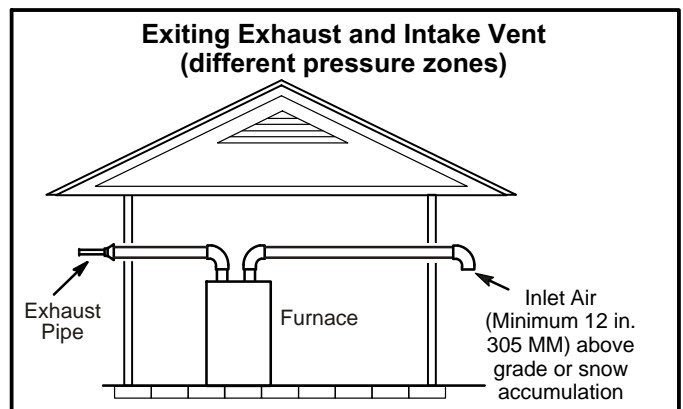
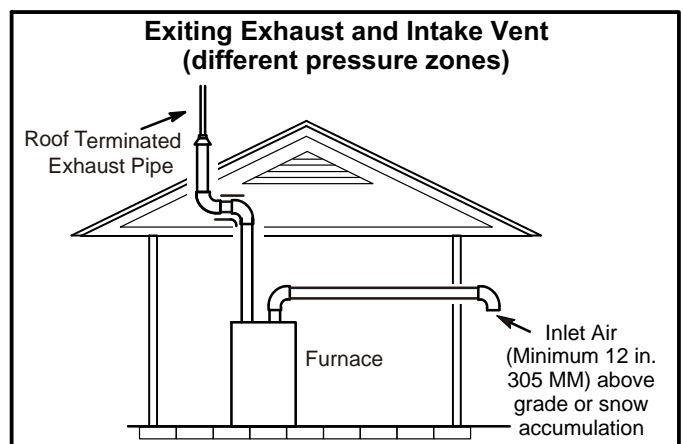

FIGURE 34
FIGURE 35
- 1 - Intake and exhaust terminations are not required to be in the same pressure zone. You may exit the intake on one side of the structure and the exhaust on another side (figure 34). You may exit the exhaust out the roof and the intake out the side of the structure (figure 35).